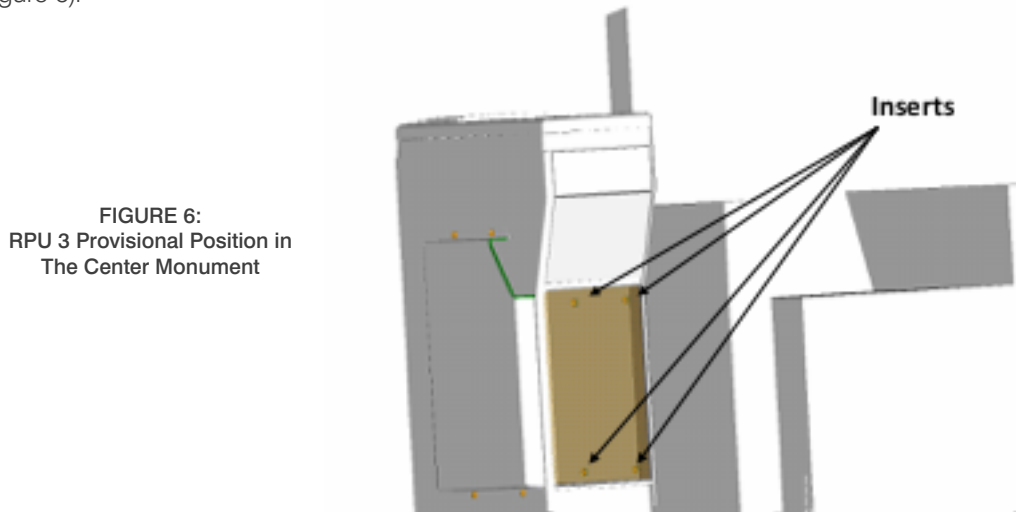

FIGURE 6:
- » The provisions to mount RPU 3 will be located in the lower compartment of the center monument located between the observer's seats. The modification will require the installation of potted inserts into the wall for the future installation of (1) RPU (see Figure 6).